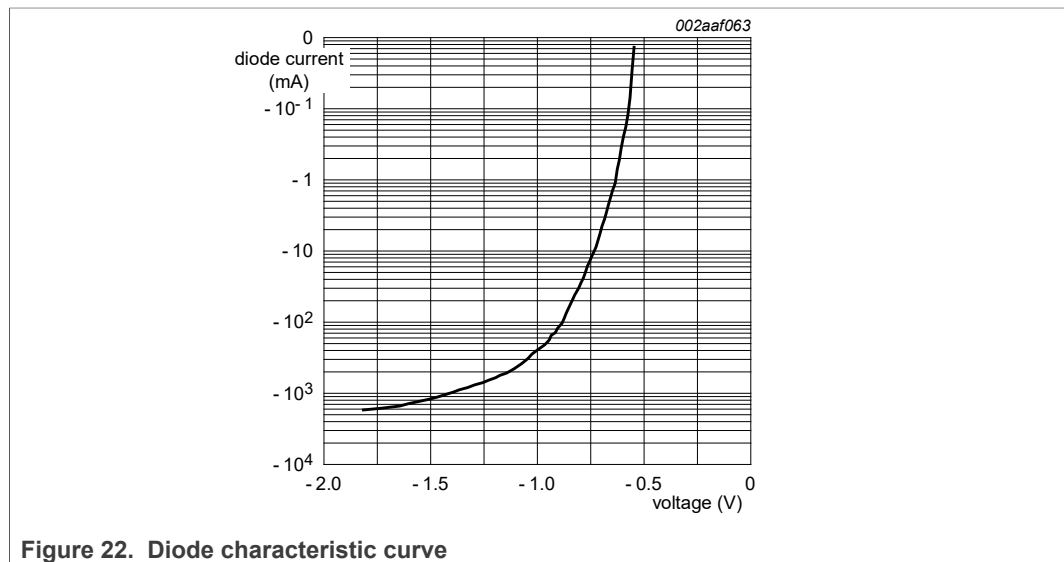

Figure 22. Diode characteristic curve
Figure 22 shows the measured characteristic for one of those diodes inside PCA9600. The plot was made using a curve tracer that applies 50 Hz mains voltage via a series resistor, so the pulse durations are long duration (several milliseconds) and are reaching peaks of over 2 A when more than -1.5 V is applied. The IC becomes very hot during this testing but it was not damaged. Whenever there is current flowing in any of these diodes
For the PCA9600, in specific applications, there will always be transient overshoot and ringing on the wiring that can cause these diodes to conduct. Therefore we designed the IC to withstand those transients and as a part of the qualification procedure we made tests, using DC currents to more than twice the normal bus sink currents, to be sure that the IC was not affected by those currents. For example, the TX/TY and RX/RX pins were tested to at least -80 mA which, from Figure 22, would be more than -0.8 V. The correct functioning of the PCA9600 is not affected even by those large currents. The Absolute Maximum (DC) ratings are not intended to apply to transients but to steady state conditions. This explains why you will never see any problems in practice even if, during transients, more than -0.3 V is applied to the bus interface pins of PCA9600.
Figure 22 also explains how the general Absolute Maximum DC specification was selected. The current at 25 °C is near zero at -0.55 V. The PCA9600 is allowed to operate with +125 °C junction and that would cause this diode voltage to decrease by  $100 \times 2 \text{ mV} = 200 \text{ mV}$ . So for zero current we need to specify -0.35 V and we publish -0.3 V just to have some extra margin.